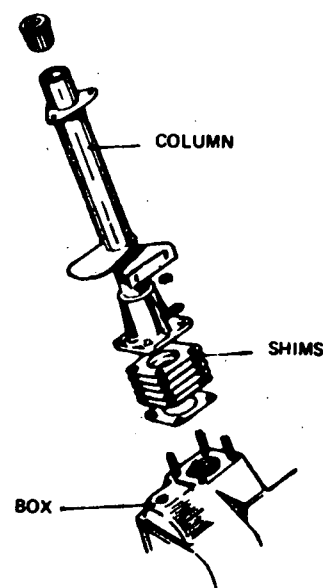

Fig. 2
c) Install the shims of the steering column (Fig. 2).
d) Place the steering column on the box. Tighten the securing bolts (Fig. 2).